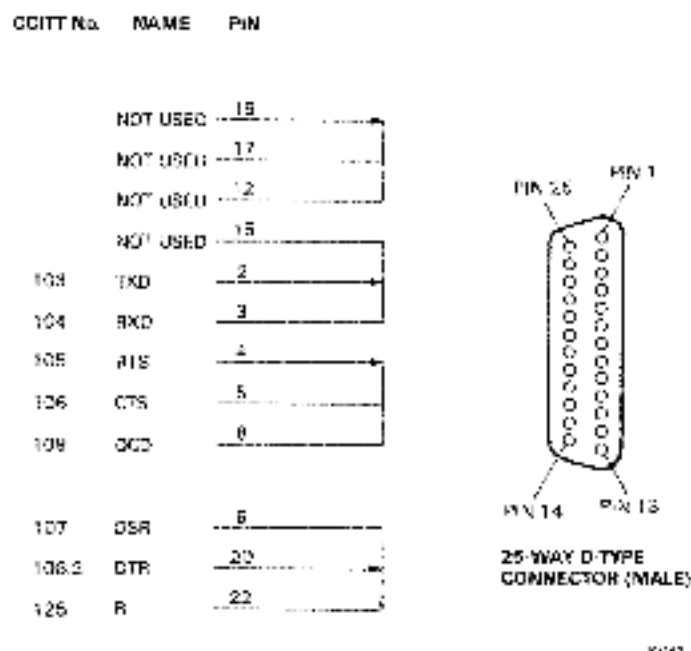

Figure 2-10 H3197 Loopback Connector
2.9.3.3 H3197 25-Way Loopback Connector (Async Channels) – This connector is used to test a single asynchronous channel. (Eight H3197s will be needed to test all the async channels simultaneously.) It is a 25-way D-type connector that plugs into an async port on the distribution panel, and is wired as shown in Figure 2-10.